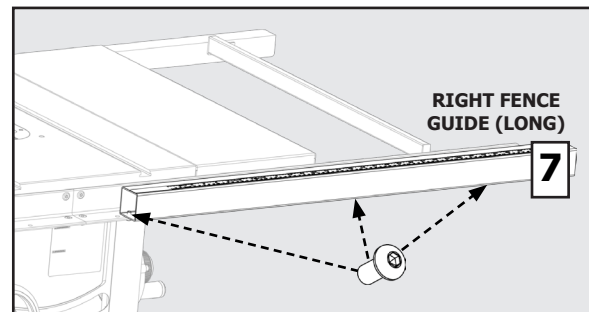

FIGURE 9A
1. Attach the right fence guide using three 1/4-20 x 1/2-inch hex button head screws and 1/4-inch spring washers through the holes on the bottom side of the front rail. See Figure 9A.